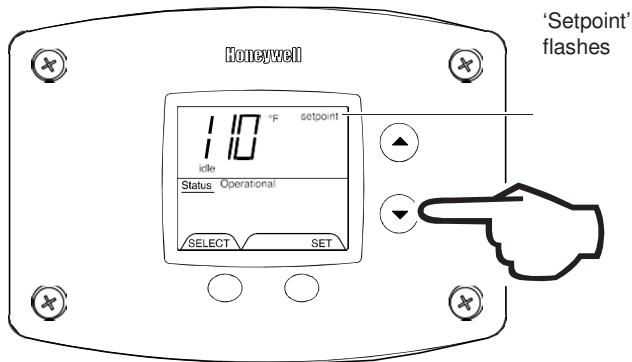

Figure 17
2. 'Setpoint' indicator begins flashing in the display after pressing 'Temperature Down' button (Fig. 17).